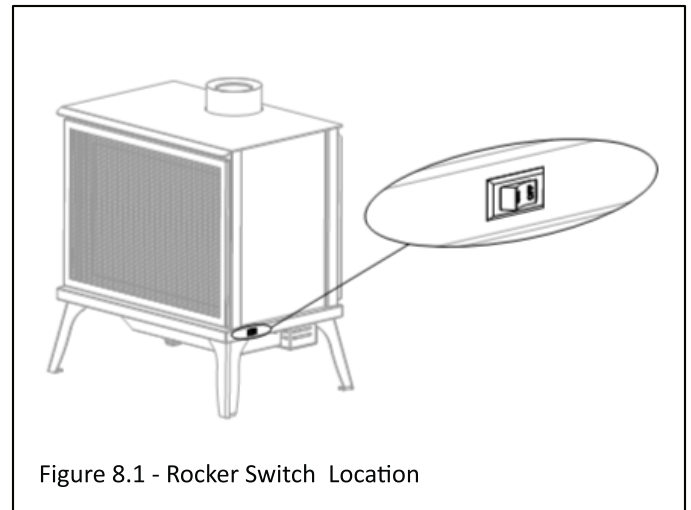

Figure 8.1 - Rocker Switch Location
1. Set the main ON/OFF rocker switch in the OFF position. Figure 8.1
2. Install (3) AAA batteries (included in the components packet) in the remote control battery bay, located at the base of the remote.
1. Locate the ON/OFF rocker switch on the side of the fireplace to OFF position. Figure 8.1. Locate the SW1 button on the IFC control module by opening the control access panel under the fireplace.
2. Press and hold the SW1 button until it emits (3) beeps and an amber LED is illuminated.
3. Within (5) seconds, press the SW1 button again. This will close synchronization with the remote control. The pilot will automatically light.
- This system will execute an automatic turn OFF command for approximately (5) seconds within (24) hours of a continued pilot flame ignition to perform a safety check. This allows the system to verify correct safety functions.